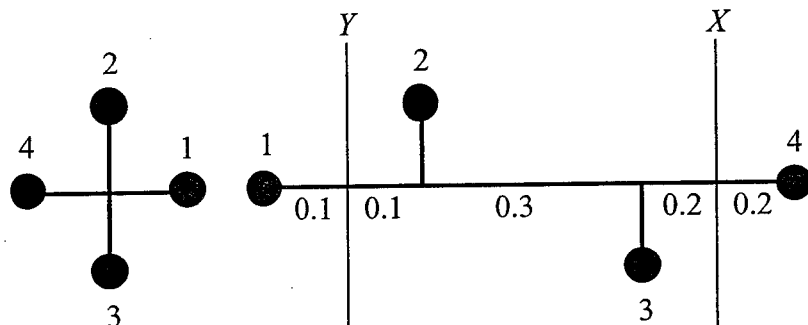

Figure 1
- c) Figure 1 shows a configuration of four equal masses on a shaft. Find the magnitude and angle, relative to mass 1, of the masses required in planes  $X$  and  $Y$  to achieve balance. Assume all masses are at the same radius.